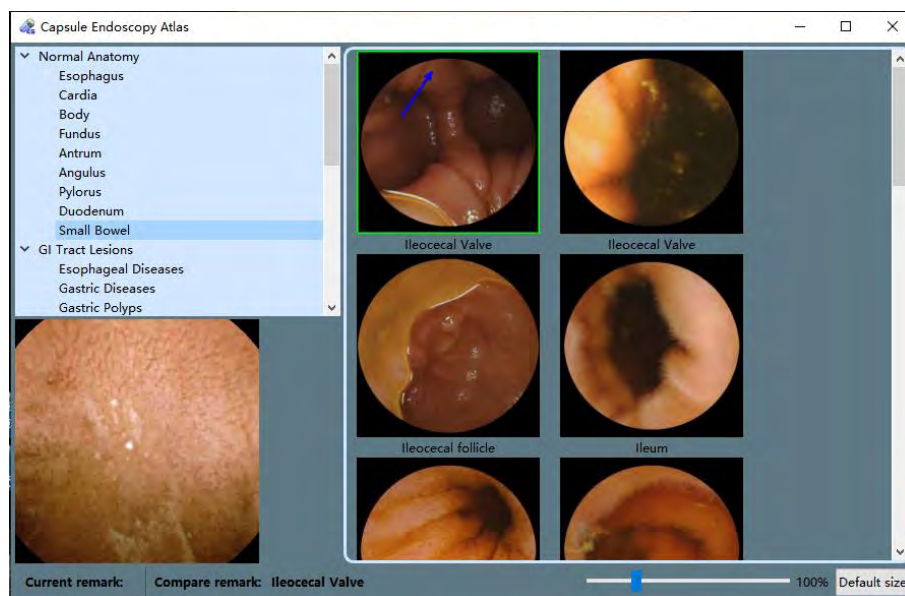

Figure 4-65: Normal Anatomy Images of Small Bowel
- Click on the normal anatomy images or typical GI tract lesions in stomach, duodenum, and small intestine. Select the stomach area or lesion type to be compared and view the corresponding normal anatomy images or lesion images, as shown in Figure 4-65.